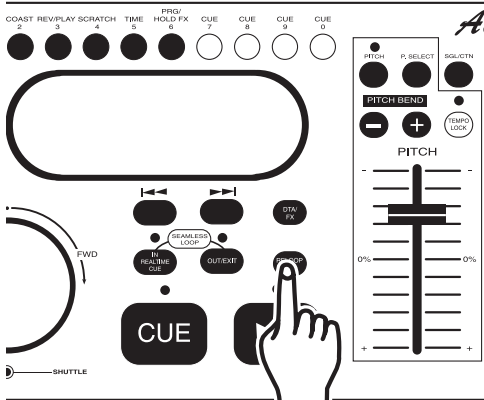

Figure 26
REPLAY LOOP - The **RELOOP (30)** function allows you to return to your stored loop at any time. The **IN REAL-TIME CUE BUTTON (26)** and **OUT/EXIT BUTTON (28)** LEDs will indicate a loop is stored in memory, and may be played at any time. To replay the loop, press the **RELOOP/BOP BUTTON (30)**. The **IN REAL-TIME CUE BUTTON (26)** and **OUT/EXIT BUTTON (28)** LEDs will again begin to flash indicating **SEAMLESS LOOP** mode has been activated (Figure 26) and your stored loop will immediately begin to play.
Please note only the ending point of a loop may be edited, a loop may be made shorter or longer. Before you can edit your seamless loop you obviously must first have created a seamless loop to edit. If you haven't created a **SEAMLESS LOOP**, follow the instructions in step 10. If a **SEAMLESS LOOP** has already been created, press the **RELOOP/BOP BUTTON (30)** to activate your **SEAMLESS LOOP** (Figure 26), if it is not already playing. To edit a loop's ending point: